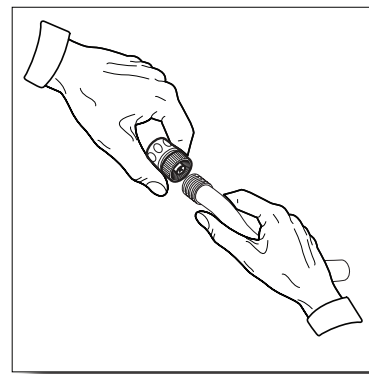

Fig. 16
- Connect garden hose. Hand tight is fine. Next screw on the blue/black collar attachment to your garden hose (**Fig. 16**). Slide the blue/black collar onto the clear adapter, it will “click” into place. The water is now connected to your power washer.